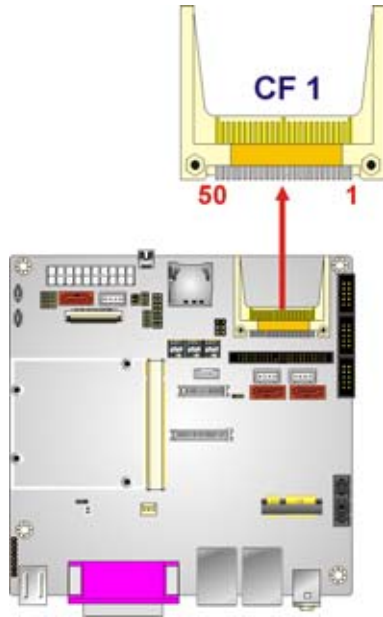

Figure 4-4: CompactFlash® Slot Location
- CN Location:** See Figure 4-4